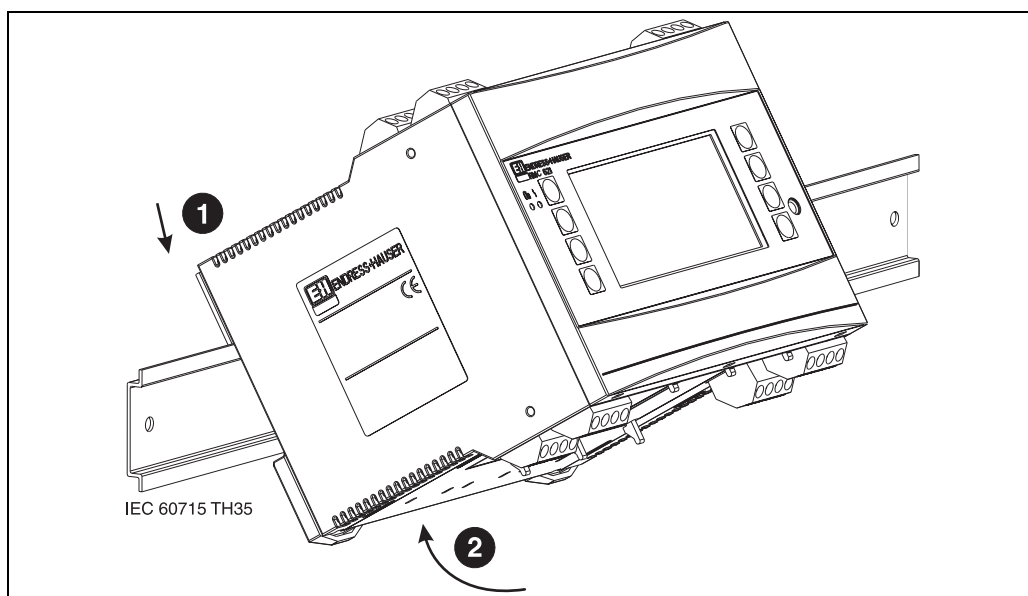

Fig. 3: Mounting device on top-hat rail
First remove the plug-in terminals from the device slots. Now snap the housing onto the top-hat rail by firstly hanging the device on the top-hat rail and then pressing it down gently until it engages (see Fig. 3, item 1 and 2).